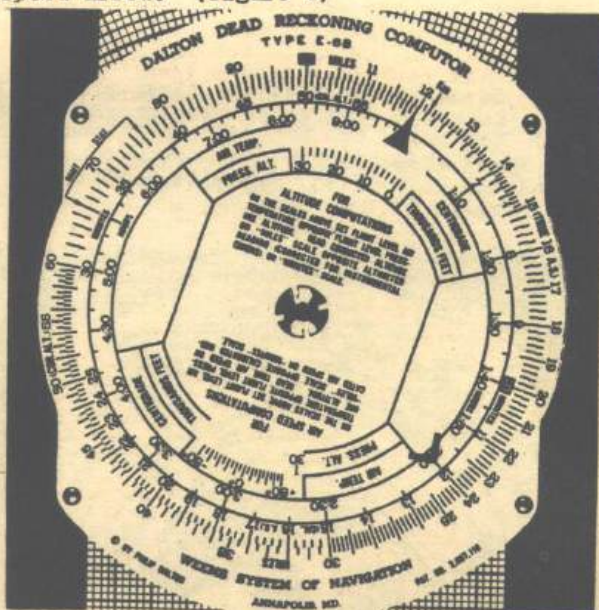

Figure 4
- On the miles scale read ground speed, 120 m.p.h., opposite the speed arrow. (figure 4)